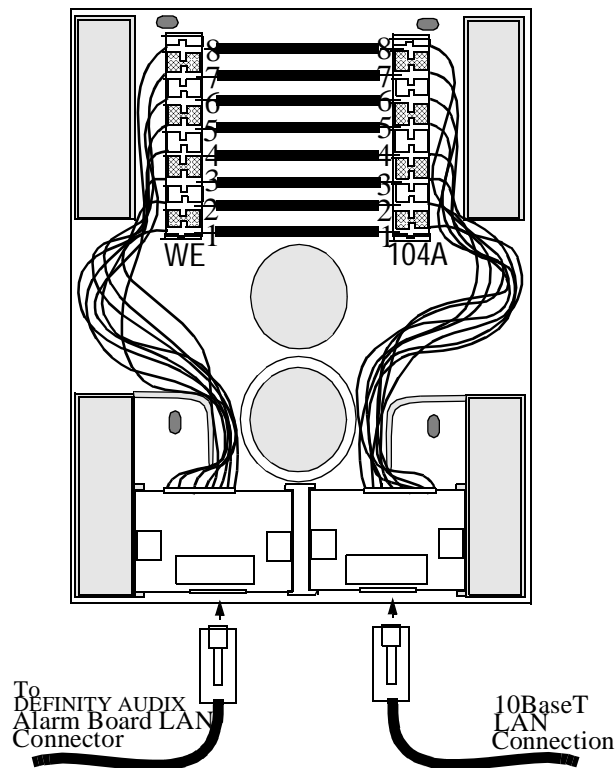

Figure A-3. 104A Mounting Block
2. Remove the top of the 104A connecting block that was included in the upgrade kit. Inside, eight wires must be hard-connected across the two mounting blocks, as shown in Figure A-3, *104A Mounting Block*. The ends of each wire are stripped of insulation. A punch-down tool is used to press the ends of these eight wires into the mounting blocks. Four protector caps snap over the top of the mounting blocks.